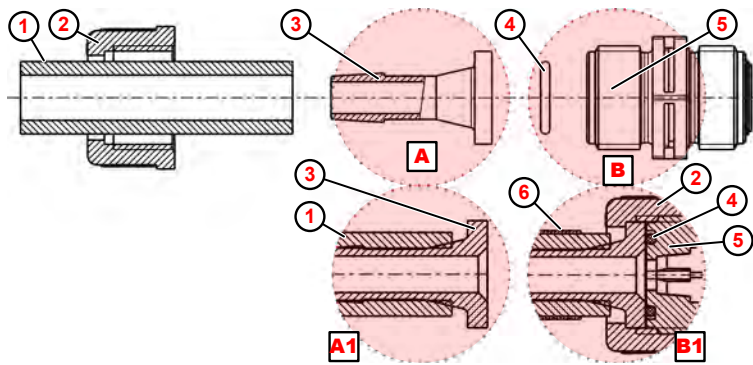

Fig. 9: Pipe and hose connection with attachment nipple and hose clamp
1. ➤ Cut off the hose with a straight cut (Fig. 9 , ①).
2. ➤ Slide the hose clamp ⑥ over the hose ①
3. ➤ Slide the union nut ② over the hose ① .
4. ➤ Slide the hose ① onto the attachment nipple ③ up to the stop collar (for details, Ⓐ1).
5. ➤ Place the o-ring ④ in the groove of the suction or pressure valve ⑤ .
6. ➤ Tighten the union nut ② .
7. ➤ Push the hose clamp ⑥ downward and tighten (for details, Ⓑ1).